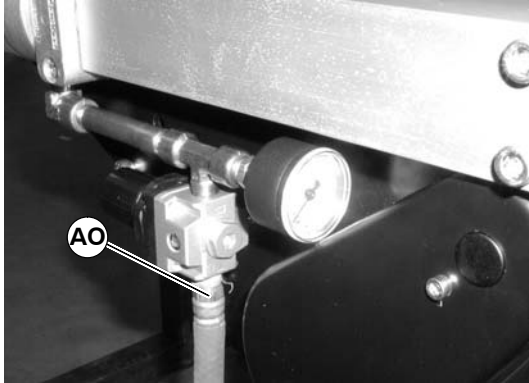

Figure 60
1. Remove air supply and remove hose (AO of Figure 60) from center drive.